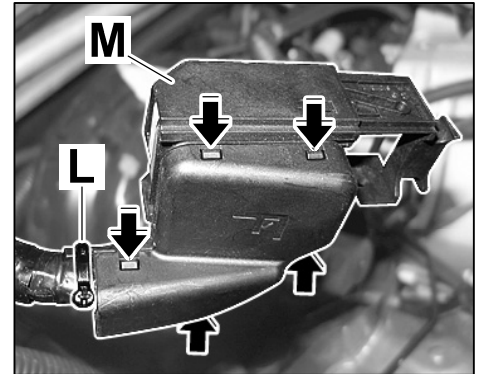

Figure 32
8.4.1 Remove tie-wrap ⇒ *Figure 32 -L-*. Carefully open the locks ⇒ *Figure 32 -arrows-* and remove cover ⇒ *Figure 32 -M-* on connector.